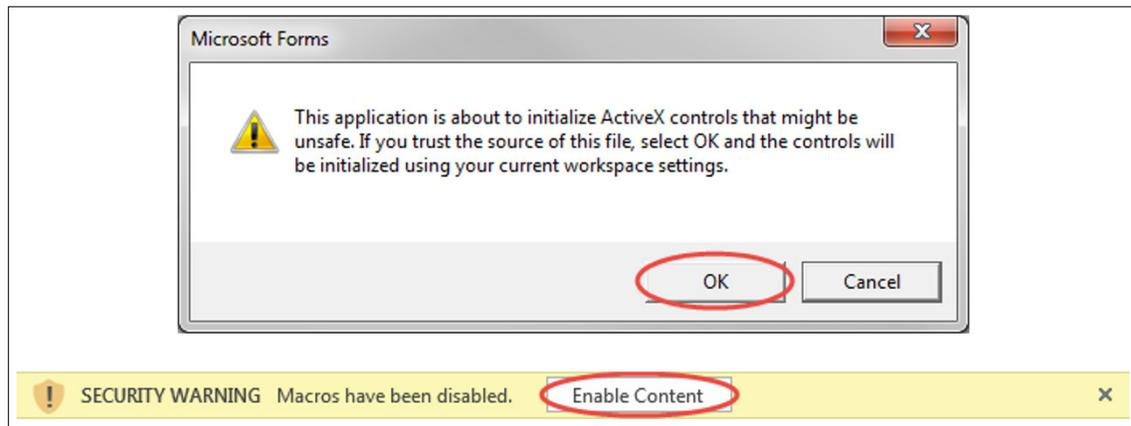

Figure 2.2 Security warnings.
*If security warnings display (Figure 2.2), enable the Q2P macros. Alternatively, to avoid these messages in the future, the Q2P application directory can be added as a trusted location and macros can be allowed to run without prompt. See the Revising Security Settings in the Miscellaneous Helpful Information section for more information.*